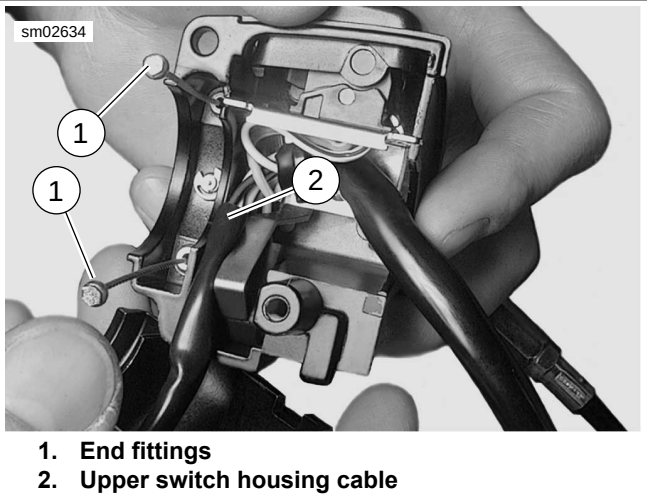

Figure 6-144. Route Cable to Upper Switch Housing
2. See Figure 6-144. Route the cable (2) to the upper switch housing as shown.